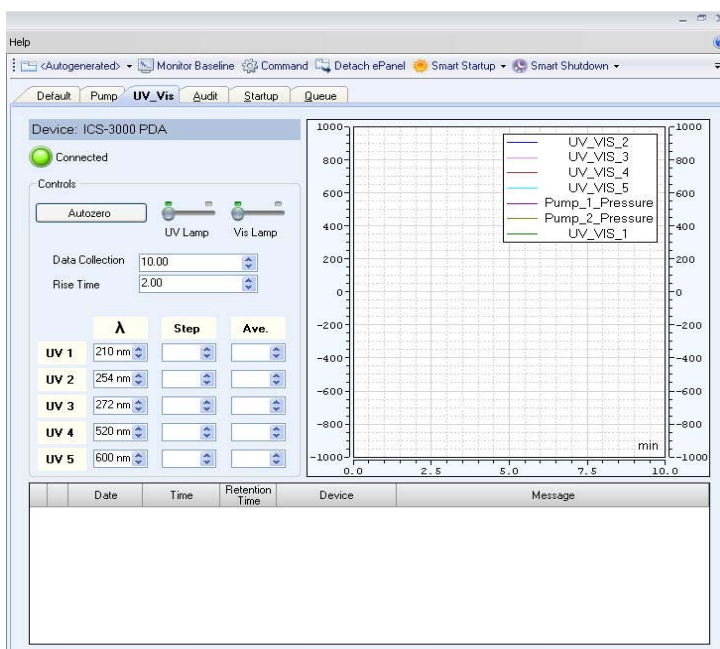
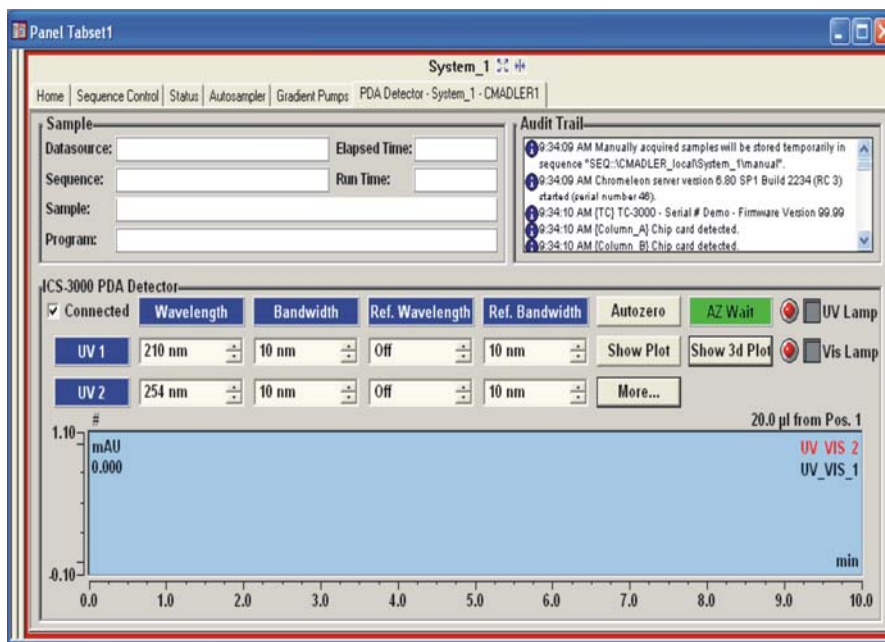

Figure 3-1. Example Dionex PDA ePanel in Chromeleon 7
Figure 3-2. Example Dionex PDA Control Panel in Chromeleon 6.8
- d. To display the detector ePanel, click the **UV\_Vis** tab on the ePanel Set (see Figure 3-1).
- c. To display the Dionex PDA Control panel, select the **Dionex PDA** tab on the panel tabset (see Figure 3-1).
To turn on the lamps, click **UV Lamp** and **Vis Lamp** on the Chromeleon 7 ePanel (see Figure 3-1) or the Chromeleon 6.8 Control panel (see Figure 3-2).